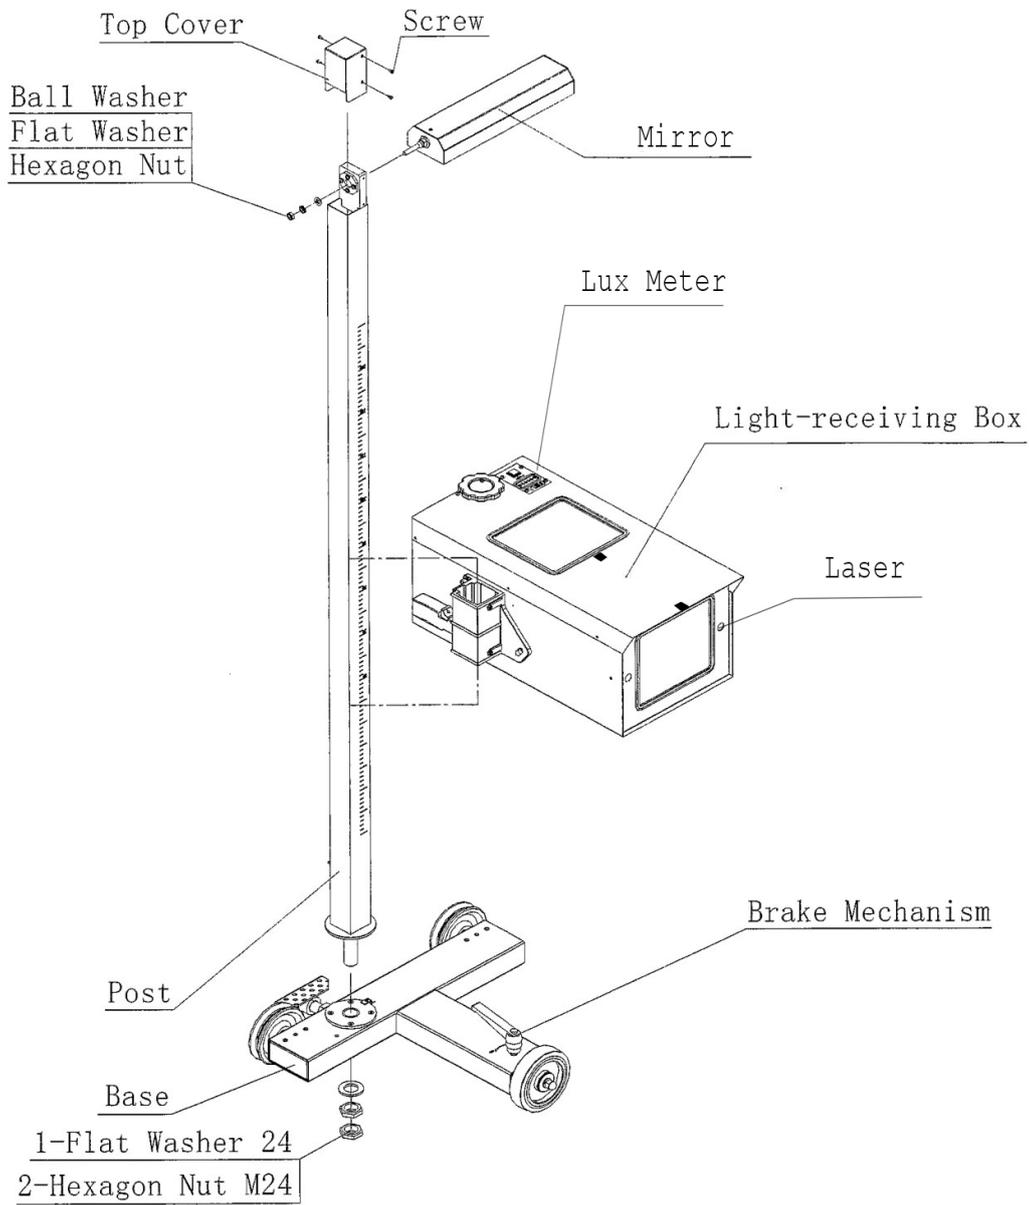

Fig.1
7. CONSTRUCTION AND COMPONENT (Fig.1)